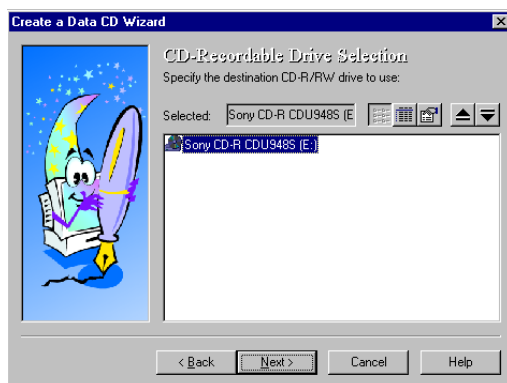

Figure 1
3. At the main Hotburn menu, click on the Create a Data CD radio button under the Wizards section. See Figure 1 below.